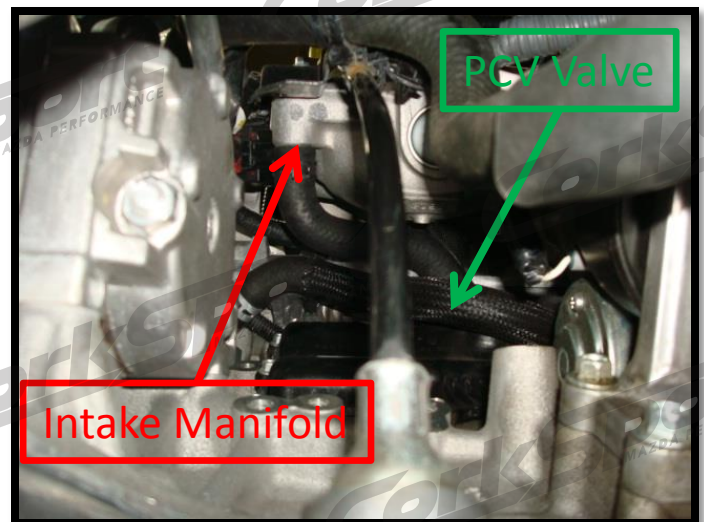

Figure 2a
- a) Locate the PCV hose. (Figure 2a identifies the hose. The red arrow shows the end that goes into the intake manifold and the green arrow shows the end that goes into the engine).
- To locate the PCV hose while under the car, look up by the dipstick that is located behind the AC compressor. (Figure 2a identifies the hose. The red arrow shows the end that goes into the intake manifold and the green arrow shows the end that goes into the engine).